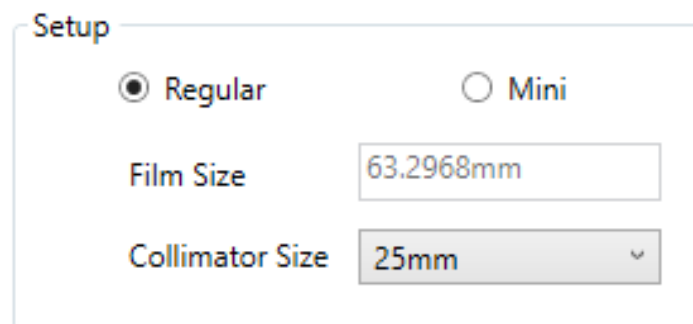

Figure 7-7 Setup ball-cube size.
3. Select the size of the Ball-cube (see Figure 7-7).